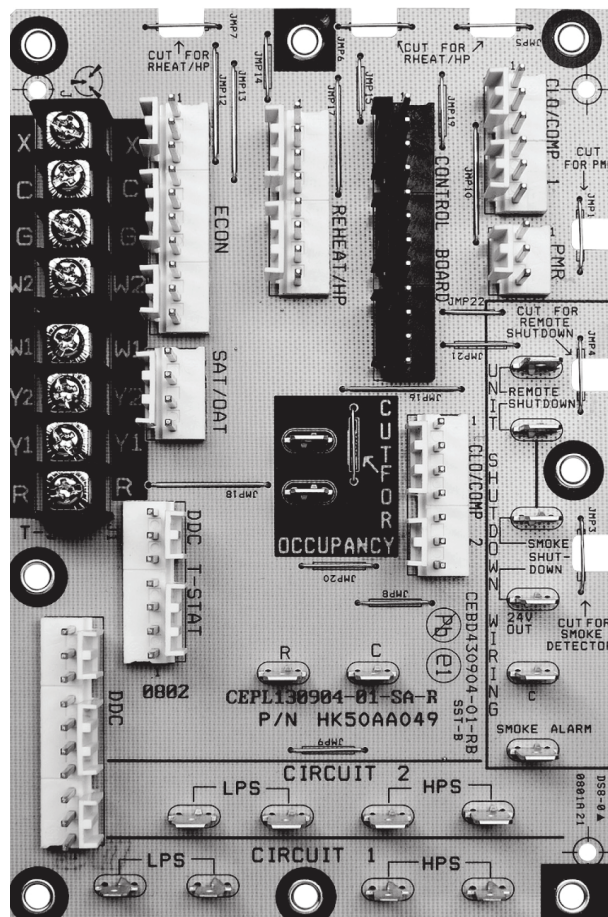

Fig. 14 — Central Terminal Board
2. The controller must be in occupied mode to energize the power exhaust fans. To set the controller to occupied mode, check the “CUT FOR OCCUPANCY” jumper on the central terminal board. (See Fig. 14).
3. Place jumper wire on thermostat inputs across terminals R and G to activate a call for indoor fan to energize. (See Fig. 14.)